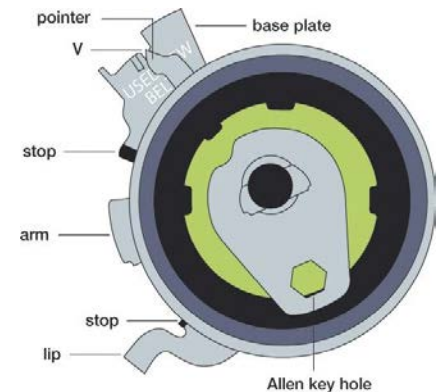

Fig. 3
14. Adjust tensioner (while holding the tensioner bolt in place), till pointer in line with V ("NEW" position); the allen key hole has to be in +/- 5 O'clock position now. (Fig. 3)